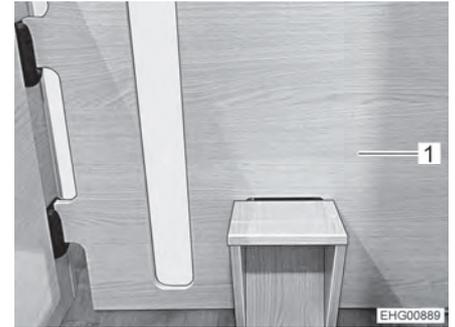

Fig. 42 Partition wall with step unit
- Attach the step unit (Fig. 41,2) to the bottom cut-out (Fig. 41,1) of the partition wall (Fig. 42,1).
- Insert the partition wall (Fig. 42,1) between the longitudinal rear beds. In order to do this, attach the partition wall in the second position (as seen from the kitchenette).